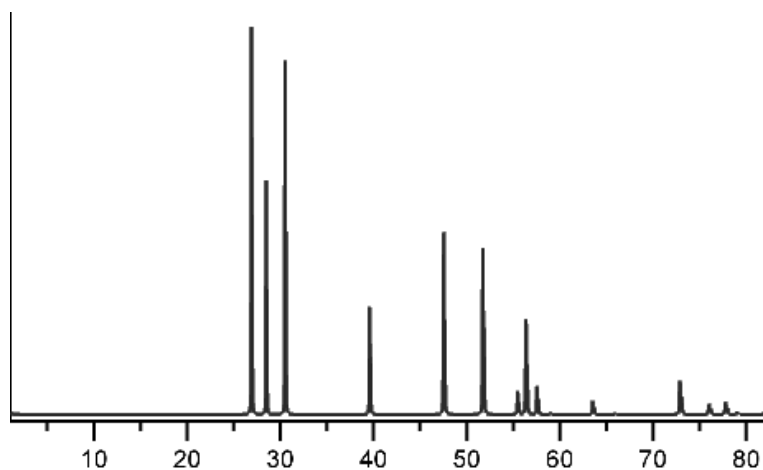

Figure 2: Cu K-alpha  $\theta - 2\theta$  scan of the second growth of ZnS film on Si.
- Let's begin with a (111) wafer of silicon. After cleaning the surface, you have a hexagonal pattern of Si, with each Si atom terminated w/ a hydrogen. Using Vesta, determine the dimensions of the hexagonal net on this surface and provide a sketch. Note, only the atoms with dangling bonds should be counted as part of this net.
- While you were off enjoying life, your pesky lab mate fiddled with the growth chamber. The next sample you grew gave the pattern shown in Figure 2 when you ran a  $\theta - 2\theta$  scan. What can you say about your second film based on this information? What is still unknown?